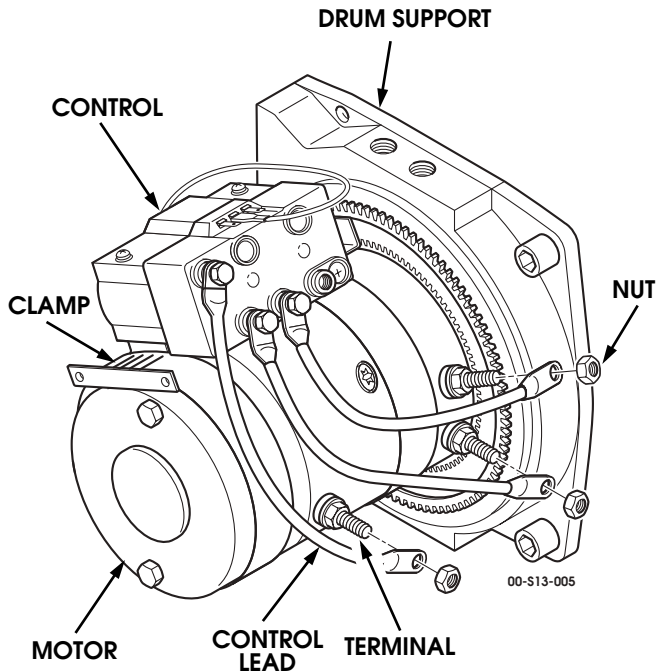

Figure 9-204: Control Leads
25. Connect three control leads to terminals and secure with nuts (Figure 9-204).
2. Remove three nuts and control leads from motor (Figure 9-204).
- Connect three control leads to terminals and secure with nuts (Figure 9-204).